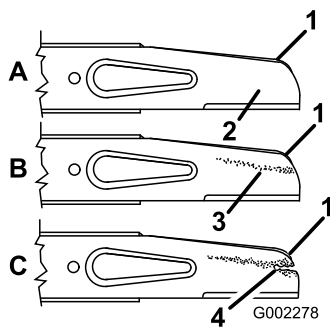

**Figure 31**
4. Tip the mower onto its side with the air filter up (Figure 31).
Grasp the end of the blade using a rag or a thickly padded glove. Remove the blade bolt, accelerator, and the blade (Figure 31).